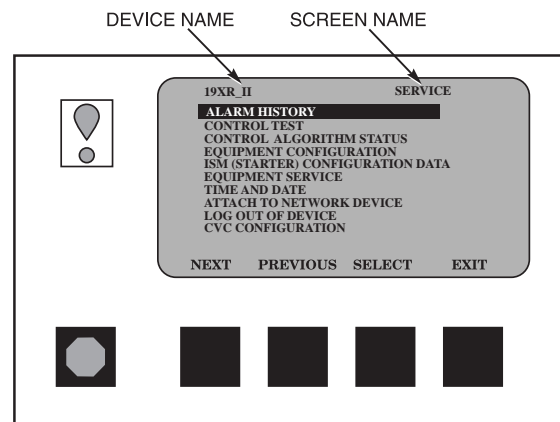

Fig. 13 — CVC Service Screen
- If a screen other than the default screen is displayed on the CVC, the name of that screen is in the upper right corner (Fig. 13).